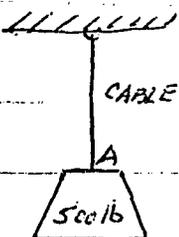

FIG. 1
- in Fig. 1
2. What is the external force on the cable in Fig. 1?
3. What is the internal force in Fig. 1?